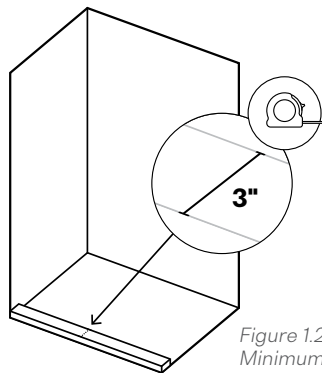

Figure 1.2 Polaris Double Slider Minimum Threshold Width
- d. **Verify Threshold Width** - If your shower installation features a raised threshold, the completed threshold must be a minimum width of **3"** or this model will not fit your space. (Fig. 1.2)